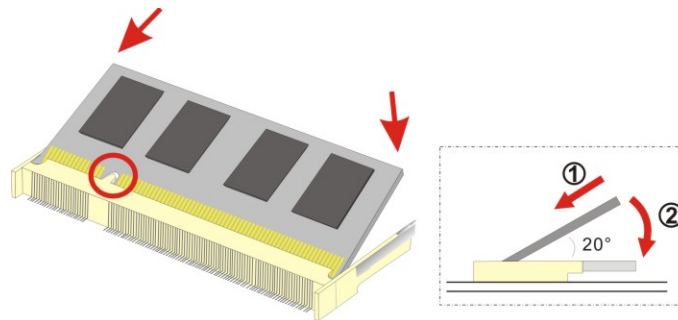

Figure 4-1: SO-DIMM Installation
To install a SO-DIMM into a SO-DIMM socket, please follow the steps below and refer to **Figure 4-1**.
Step 3: **Insert the SO-DIMM.** Push the SO-DIMM chip into the socket at an angle. (See **Figure 4-1**)
Step 4: **Open the SO-DIMM socket arms.** Gently pull the arms of the SO-DIMM socket out and push the rear of the SO-DIMM down. (See **Figure 4-1**)